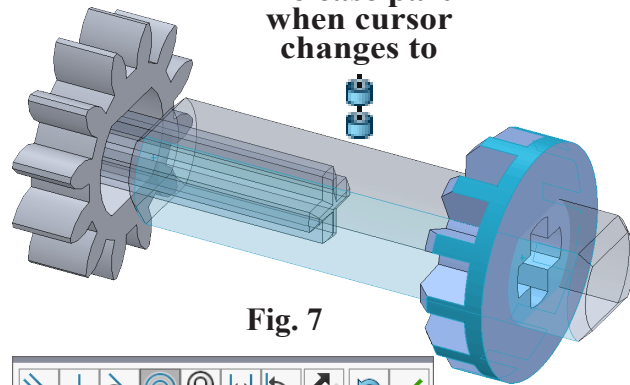

Fig. 7
Step 10. Position Bevel Gear over Driver Axle, **Fig. 7**. When Gear snaps into place and cursor changes to indicate Concentric mate , click to release Gear.